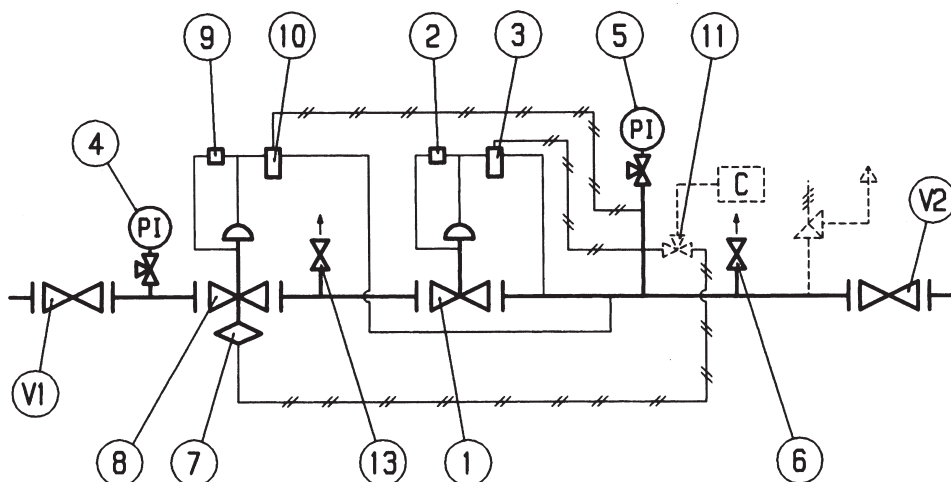

Fig. 29
5.7 COMMISSIONING THE REGULATOR PLUS APERFLUX 851 IN LINE MONITOR WITH INCORPORATED SB/82 SLAM-SHUT (FIG. 29)